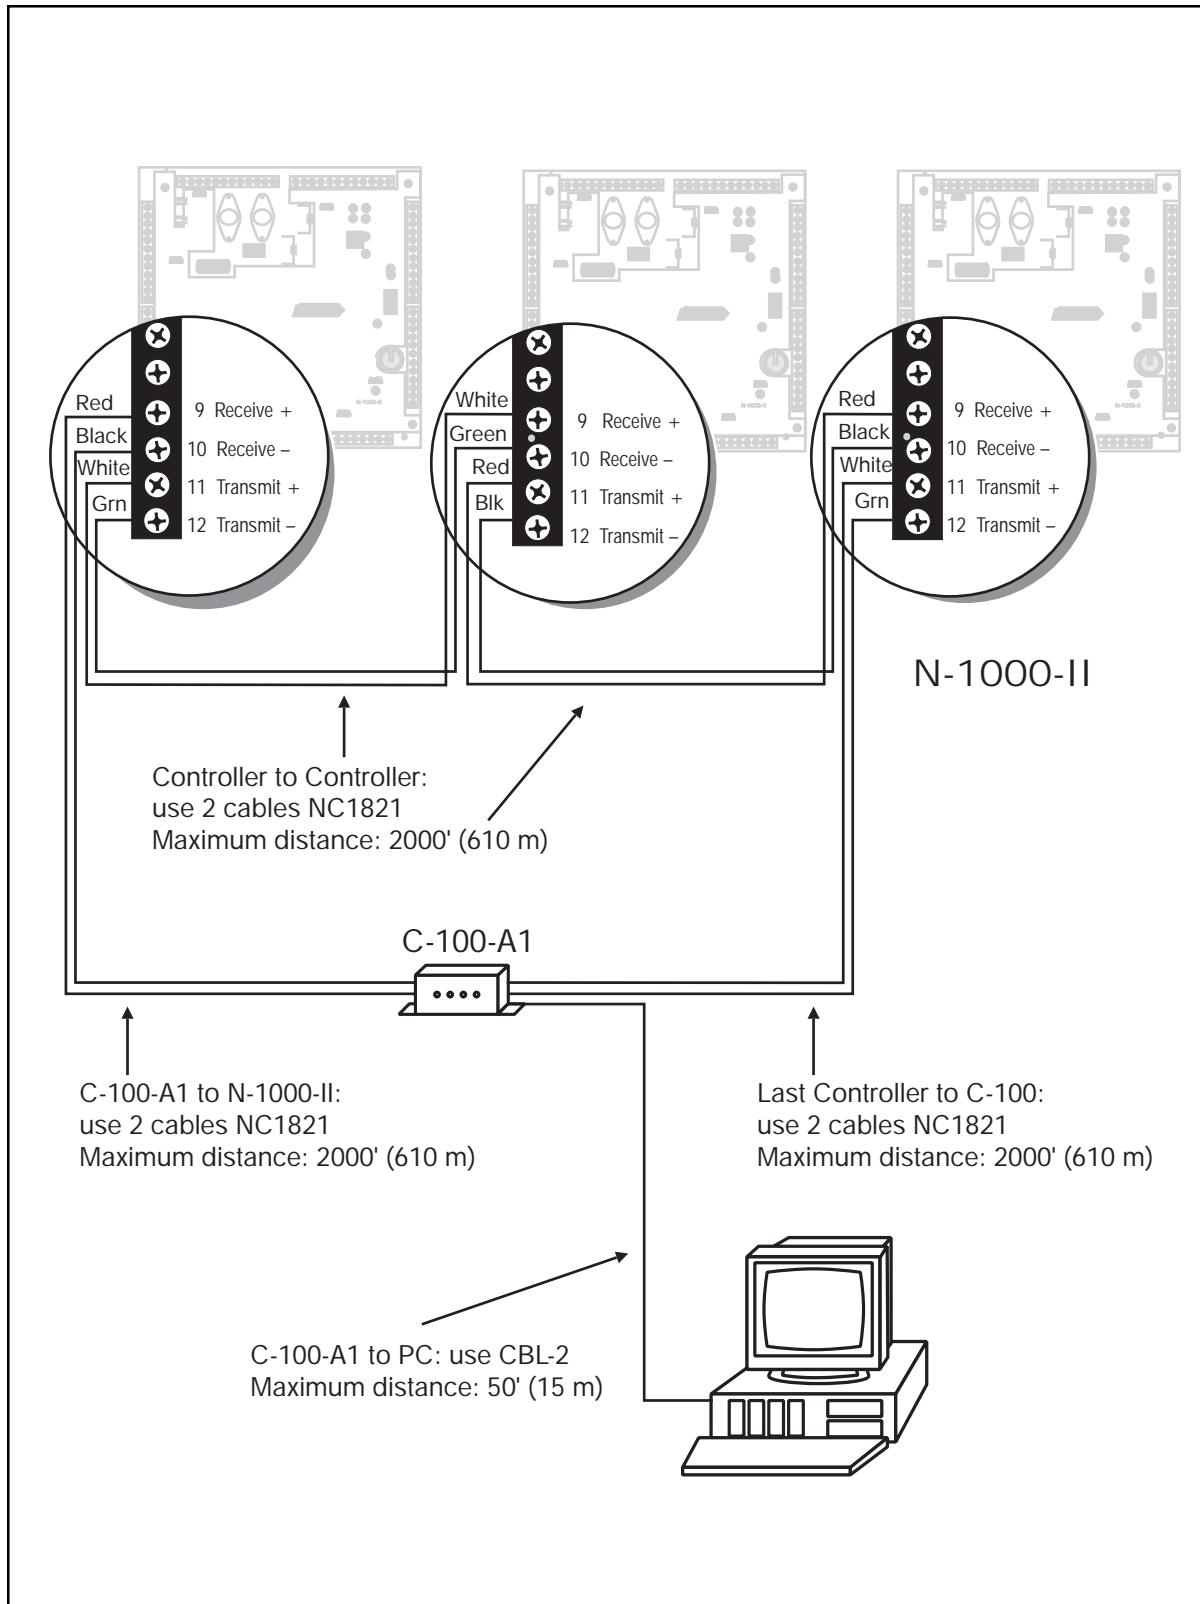

Figure 6-5. **Typical C-100-A1 Multiple Panel 20 mA Communication Loop.** Refer to Figure 6-7 for grounding of the communication loop.
- Last panel in communication loop to C-100-A1 (see Figure 6-5)